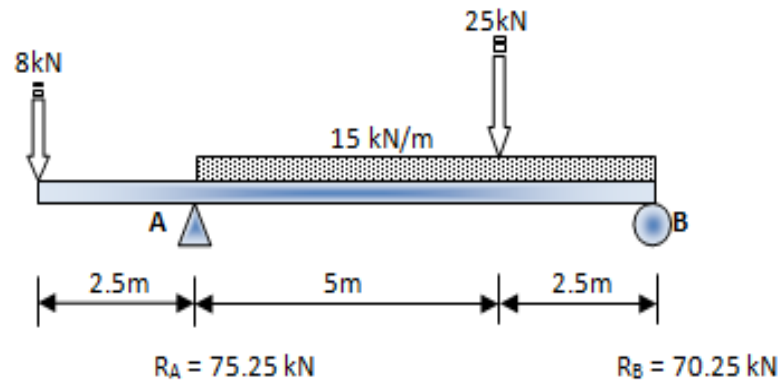

Figure B3(c) / Rajah B3(c)
C1(a) Identify the 'x' distance value based on **Figure B3(a)** below:*Tentukan nilai jarak 'x' berdasarkan dalam **Rajah B3(a)** di bawah:***Figure B3(a) / Rajah B3(a)**[5 marks]
- (c) Based on **Figure B3(c)** below, draw **Shear Force Diagram (SFD)** and **Bending Moment Diagram (BMD)**.